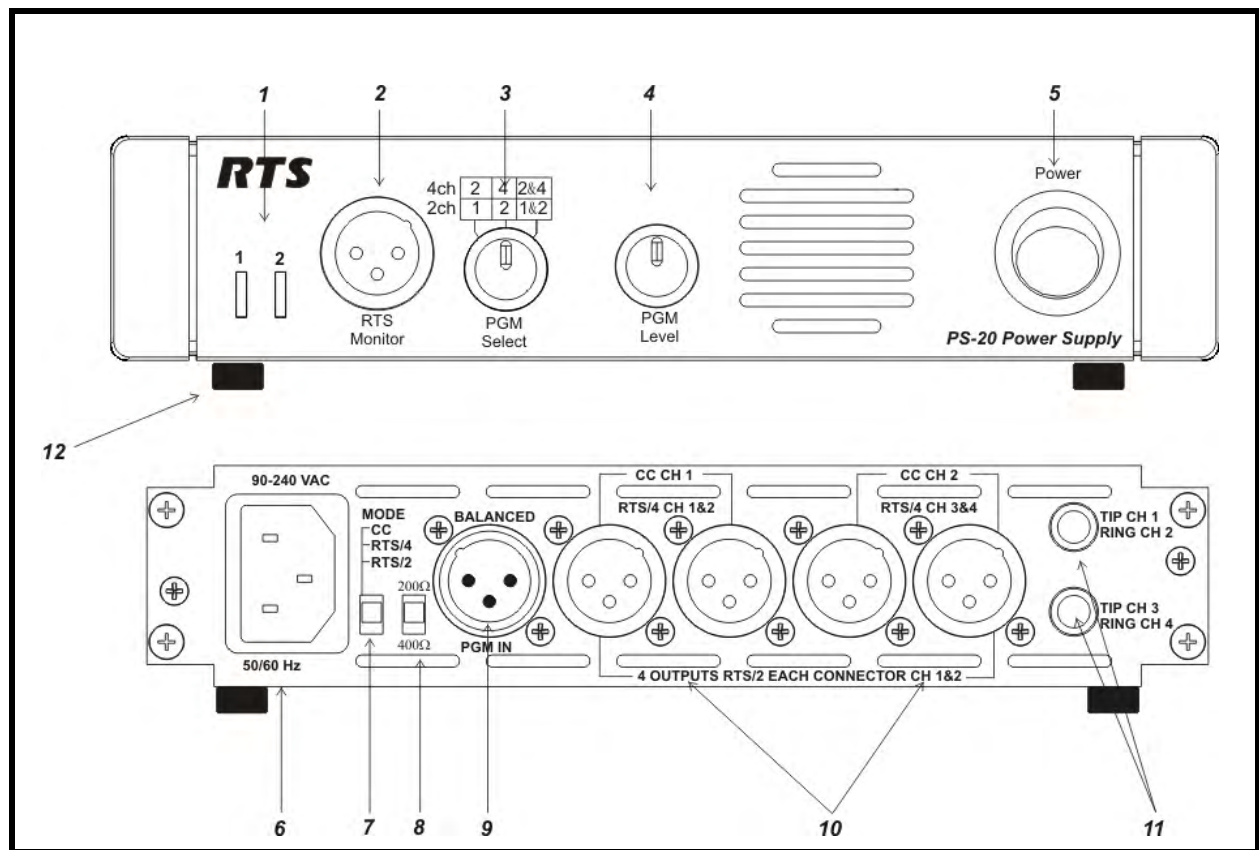

FIGURE 1. PS-20 Reference View
The PS-20 has a 3-pin XLR (male) connector on the front of the system, where a user can connect to the power supply and monitor activity on CH 1 or CH 2 (see Figure 1 on page 5). In Clear-Com mode, only channel one (1) is heard. A user station or beltpack is required to use a headset with this feature.